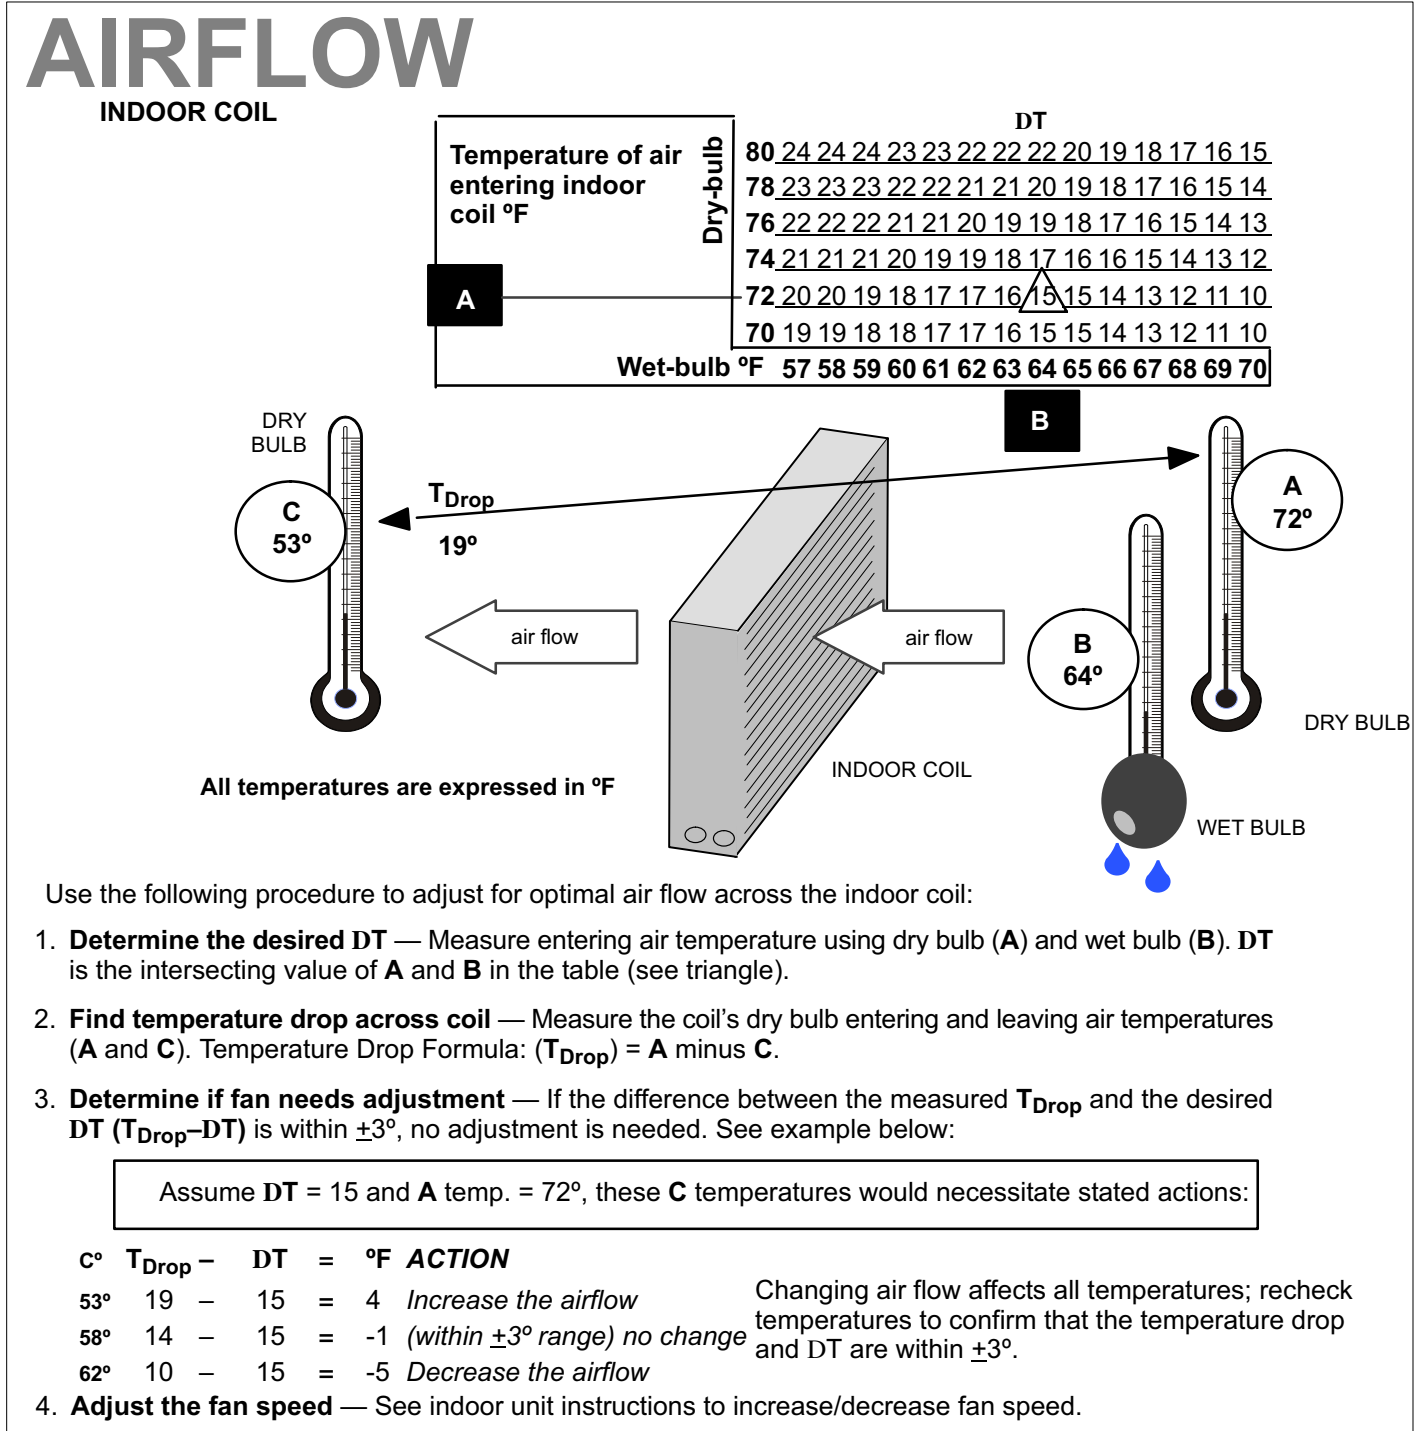

Figure 16. Checking Indoor Airflow over Evaporator Coil using Delta-T Chart
Check airflow using the Delta-T (DT) process using the illustration in figure 16.
1. Confirm proper airflow across coil using figure 16.